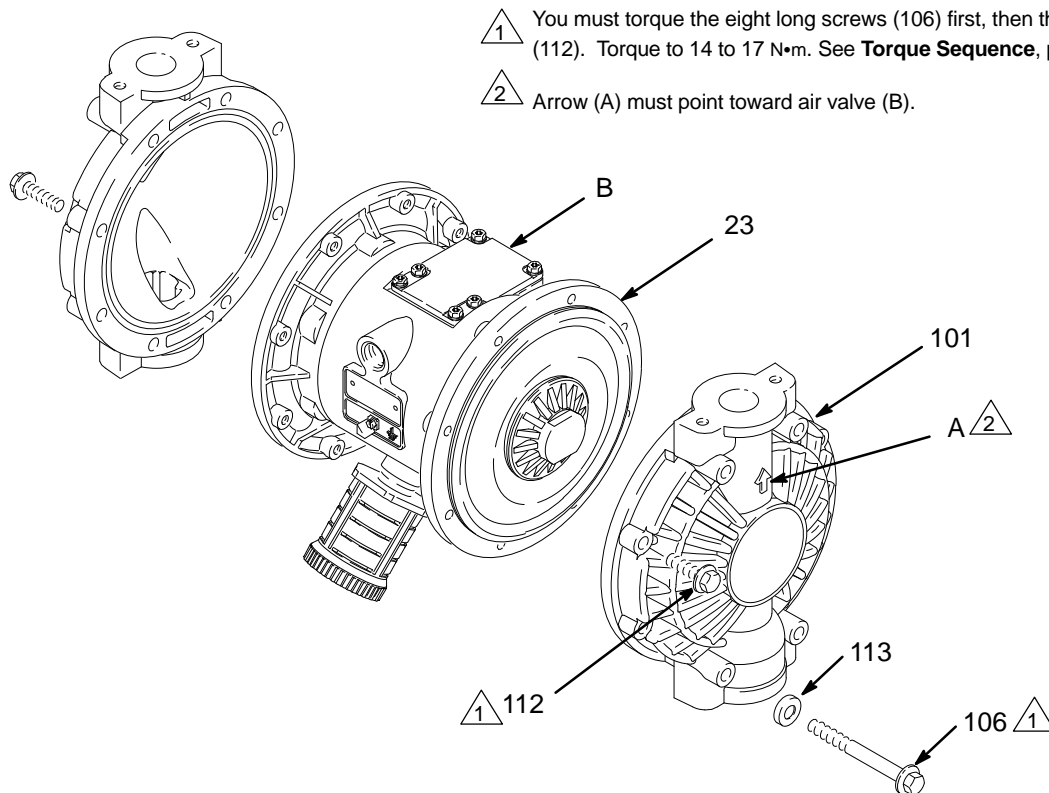

Fig. 12
3. Using a 10 mm socket wrench, remove the screws (106 and 112) holding the fluid covers (101) to the air covers (23). Pull the fluid covers (101) off the pump. See Fig. 12.
4. Apply medium strength (blue) Loctite® or equivalent to the threads of the fluid-side plates (105). Hold one of the outer plates (105) with a wrench, and torque the other outer plate to 27 to 34 N•m at 100 rpm max. Do not over-torque.
5. Align the fluid covers (101) and the center housing (1) so the arrows (A) on the covers face the same direction as the air valve (B). Secure the covers with the screws (106 and 112), handtight. Place the bolt caps (113*) on the longer screws (106), and install the longer screws in the top and bottom holes of the covers. See Fig. 12.
6. First, torque the longer screws (106) oppositely and evenly to 14 to 17 N•m, using a 10 mm socket wrench. Then torque the shorter screws (112). See **Torque Sequence**, page 30.